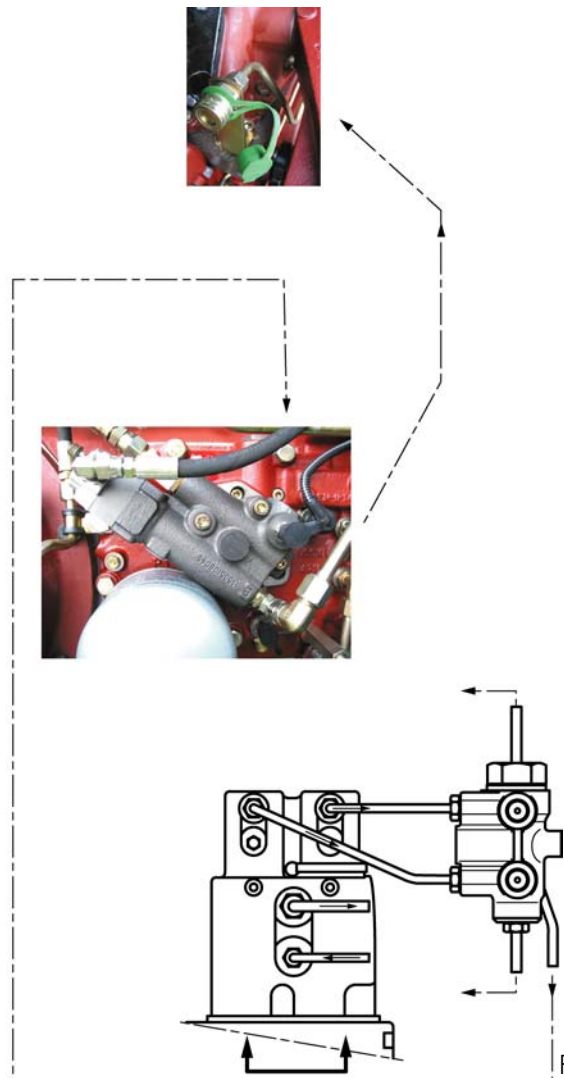

Fig. 9
The FTE valve (14) (Fig. 9) is an essential component of the trailer braking system.
Parts list (Fig. 9)